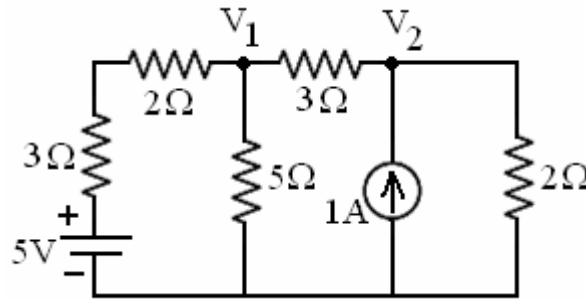

Figure 1
- 1.a) Find the voltages V_1 and V_2 in the below circuit (shown in Figure 1).